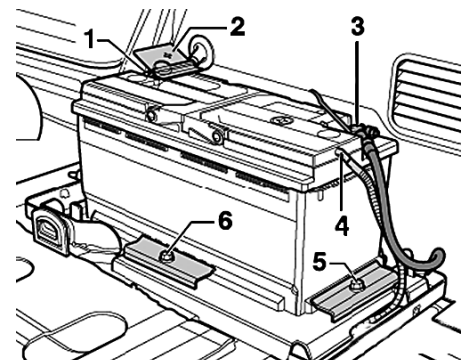

Fig. 2 Battery removal
6. Disconnect ground terminal (3) from battery post by loosening hex nut, **Fig. 2**.
7. Flip up positive cover (2), **Fig. 2**.
8. Disconnect positive terminal (1) from battery post by loosening hex nut, **Fig. 2**.
9. Remove central vent hose (4), **Fig. 2**.
10. Remove battery bracket mounting bolts (5 and 6), **Fig. 2**.
4. Install central vent hose (4), **Fig. 2**.
5. Reinstall battery hold-down bracket, and **torque** bolts (5 and 6) to 11 ft. lbs., **Fig. 2**.
6. Connect positive terminal (1) to battery post, and **torque** hex nut to 53 inch lbs., **Fig. 2**.
7. Connect ground terminal (3) to battery post, and **torque** hex nut to 53 inch lbs., **Fig. 2**.